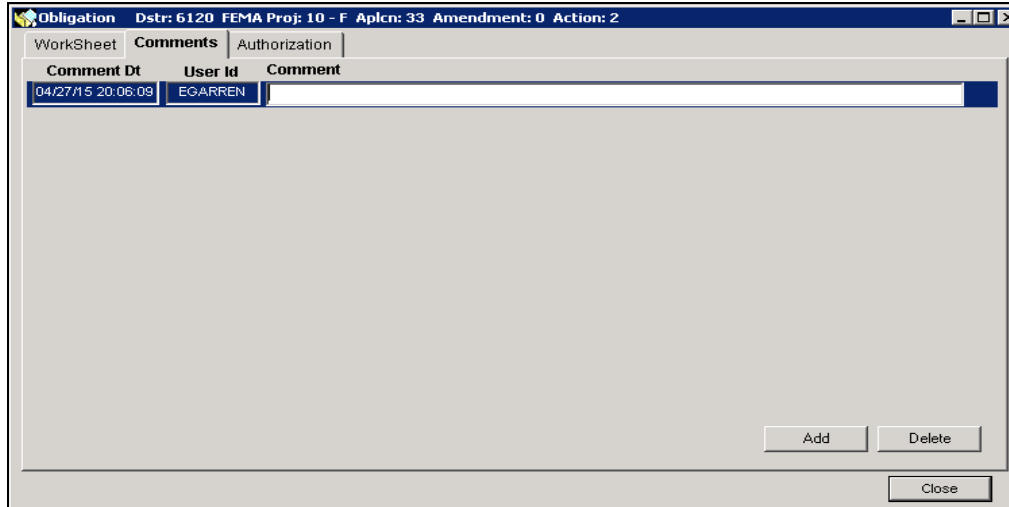

Figure 10-74: New Row for Comments
15. On the bottom right part of the tab, click the ADD button. A new row for adding comments is displayed. The system auto-fills the Date and the Time of the entry and the User ID (Figure 10-74).